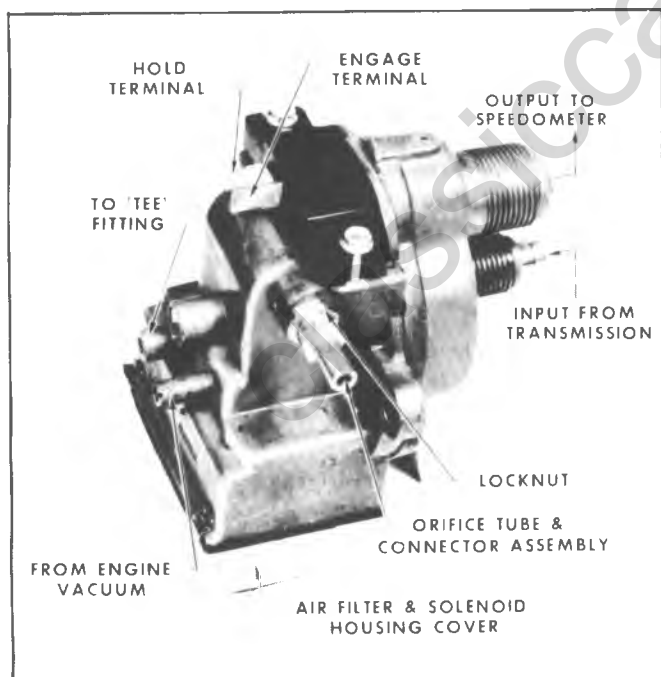

Fig. 9-2C--Typical Transducer
2. The Transducer (fig. 9-2C) is mounted in the speedometer cable line. It is a combination speed sensing device and control unit. When engaged, it senses vehicle speed and positions the Power Unit to maintain the selected speed.
If the vehicle cruises at a speed a few mph above or below the engagement speed, this error can be corrected with a simple adjustment of the orifice tube in the transducer (Fig. 9-2C).